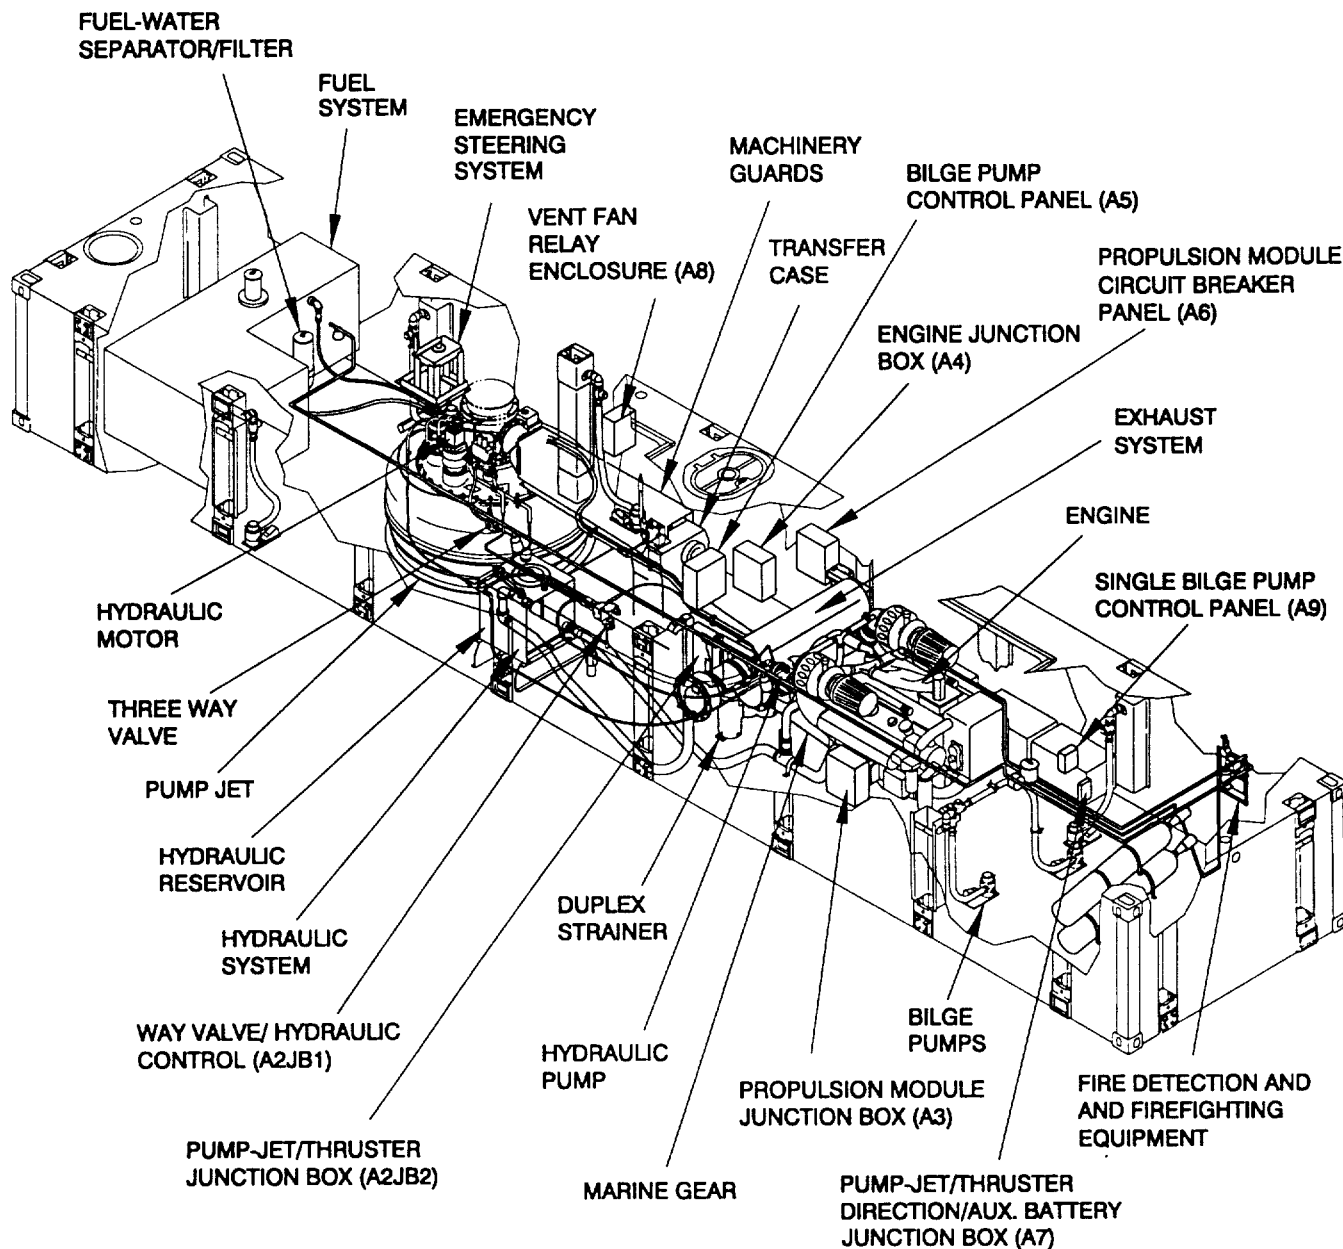

Figure 1-3. Propulsion Module Major Internal Components.
**1-10.1 Propulsion Module.** The MCF Propulsion Module (Figure 1-3) has exactly the same external dimensions and ISO container corner fittings. The module is divided into three compartments separated by watertight bulkheads. The center (machinery) compartment is the largest and contains the drive train, engine cooling and exhaust components, hydraulic system and all electrical system components with the exception of one bilge pump, a single bilge pump control panel, and a pressure operated switch that are located in the lazaret. The drive train consists of an engine, Marine Gear, transfer case and pump-jet. Guarded drive shafts connect the Marine Gear to the transfer case and the transfer case to the pump-jet. The engine cooling and exhaust system consists of a sea chest (raw water inlet integral with the structure of the module), a butterfly valve, a duplex strainer, engine raw water pump, intercoolers, a fuel cooler, engine coolant heat exchanger, the Marine Gear oil cooler, the exhaust water shut-off valve, the transfer case oil cooler, the transfer case shut-off ball valve, the water cooled muffler and exhaust flappers. The hydraulic system consists of a hydraulic pump driven by the Marine Gear, a hydraulic motor drives the primary steering planetary gearbox mounted on the pump-jet, a hydraulic brake which is integral to the auxiliary steering planetary gearbox which is also mounted on the pump-jet, an electrically actuated way valve with auxiliary manual control, a manually operated 3/2 ball valve, a needle valve, a braking valve unit, a pressure filter and a hydraulic reservoir with return line filter. A manual hydraulic hand pump is also provided for manual release of the hydraulic brake in case of system malfunction. The powered module electrical system consists of an engine mounted alternator, 4 lead-acid storage batteries, the propulsion module circuit breaker panel "A6", a bilge pump control panel "A5", an engine junction box with Emergency Stop control "A4", an engine mounted Emergency Stop push button, a propulsion module junction box "A3", a Pump-Jet/Thruster junction box "A2JB2", a Pump-Jet/Thruster direction/aux battery junction box "A9", and a fire detection system consisting of two thermal detectors and a thermal switch electrically tied into the cab controls. If the temperature inside reaches 2250, fire alarm will sound in the cab. In the event of a fire, a manually activated fire suppression system will flood this compartment with CO2. This compartment is also equipped with 5 electrically operated bilge pumps. The aft (fuel) compartment contains the fuel tank, fuel/water separator and fuel system shutoff valves. This compartment is also protected by the fire detection system. It is important to note that there are no electrical connections, controls or operating devices in this compartment. A bilge pump is not provided in this compartment. Fire detection is accomplished by means of a probe extending through the bulkhead that separates the fuel and machinery compartments with all electrical terminations made on the machinery compartment side. In the event of fire this compartment is flooded with CO2 upon activation of the fire suppression system. The forward compartment (lazaret), contains the fire suppression system control and agent storage components and provides stowage for the emergency steering assembly when not in use. This compartment is equipped with a bilge pump and local bilge pump control, and is not protected by the fire detection or fire suppression system. Each propulsion module has six 3700 gph submersible bilge pumps; 5 in the machinery compartment and 1 in the lazaret. The pumps are locally controlled from control stations mounted in the machinery compartment and lazaret or remotely controlled from the operator's cab. The Pump-jet is driven by an 8 cylinder, diesel, marine engine delivering 600 hp at 2100 rpm on the output shaft. Weight of the propulsion module is approximately 41,100 pounds dry or 45,000 pounds fully fueled. Listed below are detail descriptions of the major components found inside each propulsion module.